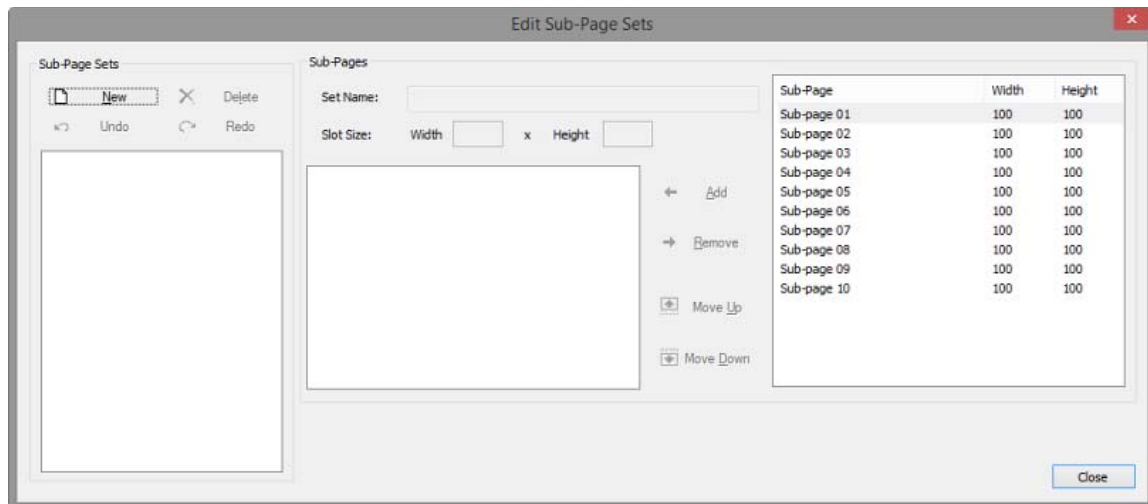

FIG. 108 Edit Sub-Page Sets dialog
- Select **Panel > Edit Sub-Page Sets** to open the *Edit Sub-Page Sets* dialog (FIG. 108):